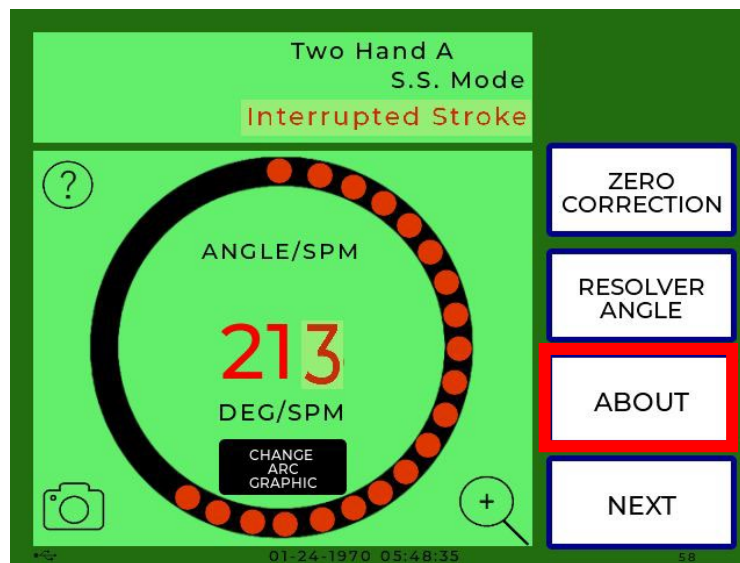
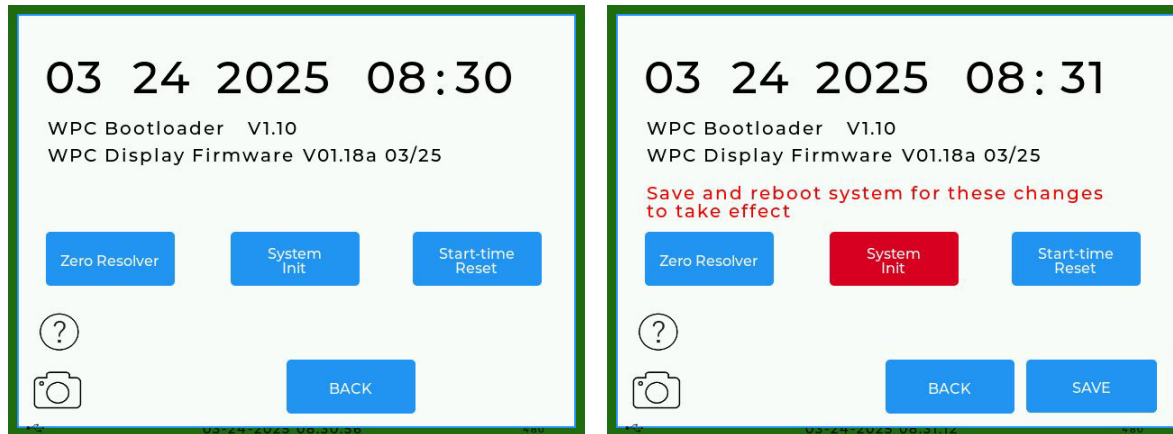

Figure 9. Program Screen, Indicating ABOUT Button
Figure 10. Initialization Screen Initialization Screen Before (left) and After Pressing System Init
2. On the Program screen, Figure 9, press ABOUT. The Initialization screen appears, Figure 10.